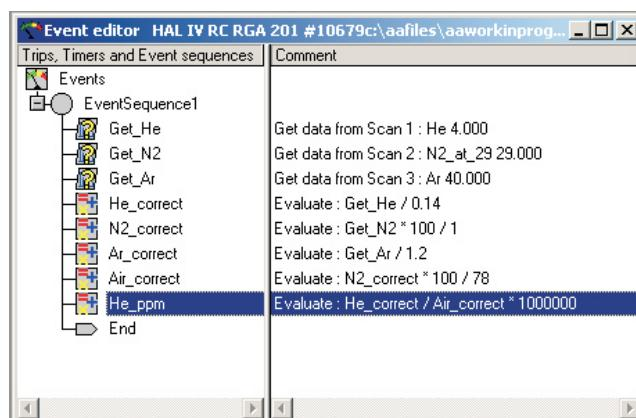

Figure 71 Event sequence, He_ppm
- The resultant event sequence is shown in Figure 71.